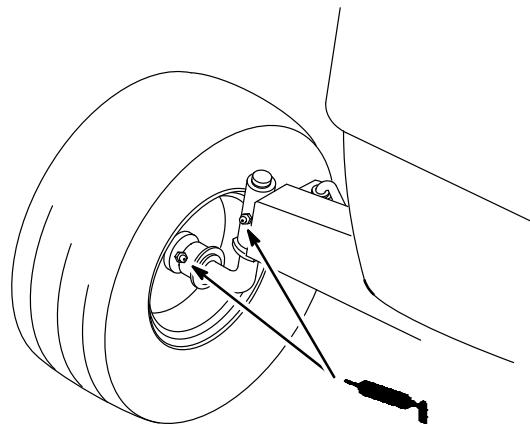

Figure 15
1. Lubricate the front wheels until grease begins to ooze out the bearings (Fig. 15).